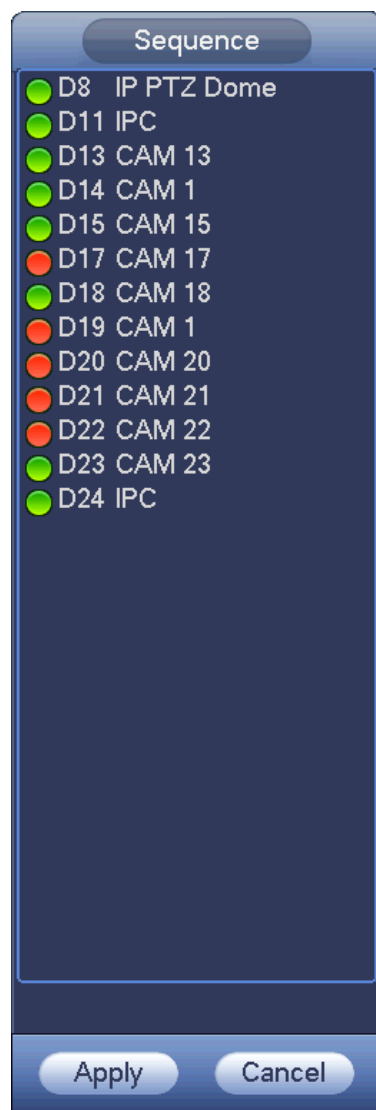

Figure 4-64
Enter edit view interface. See Figure 4-64.
- In case the channel amount has exceeded the device max split amount, the edit view interface can display the max screen number amount and current screen number. In Figure 4-64, click  or , switch the video from other channel.